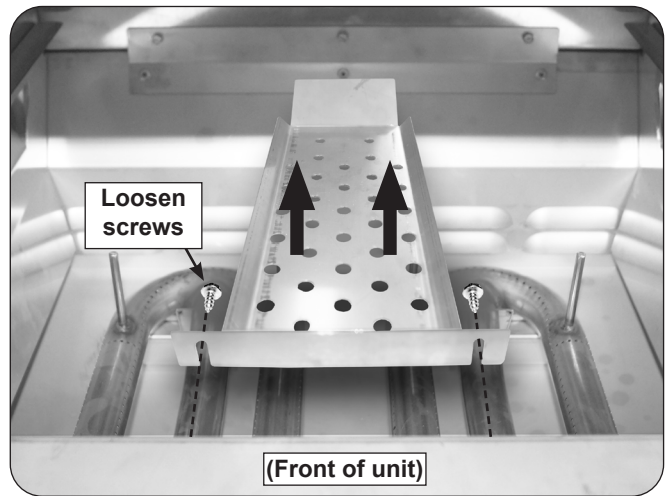

Fig. 37-1 Heat distribution grid removal
3. Loosen the two $\frac{5}{16}$ " hex screws and remove the heat distribution grid by lifting up, then outward, freeing the cutouts from the two loosened screws (see Fig. 37-1).